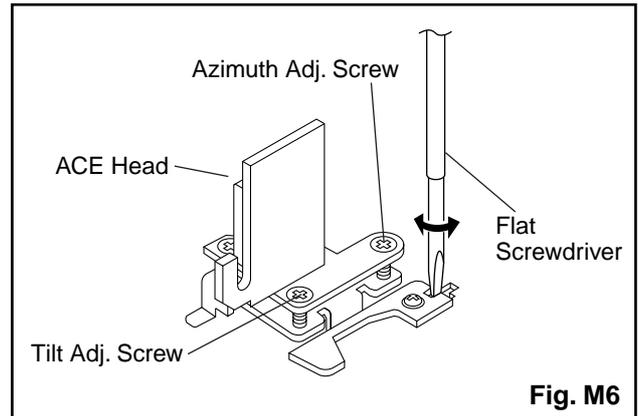

Fig. M6
4. If creasing or snaking is apparent, adjust the Tilt Adj. Screw of the ACE Head. (Fig. M6)
4. Use the Flat Screwdriver so that the PB FM signal at TP008 (C-PB) is maximum. (Fig. M6)
3. Adjust Azimuth Adj. Screw so that the output level on the AC Voltmeter or the waveform on the oscilloscope is at maximum. (Fig. M6)